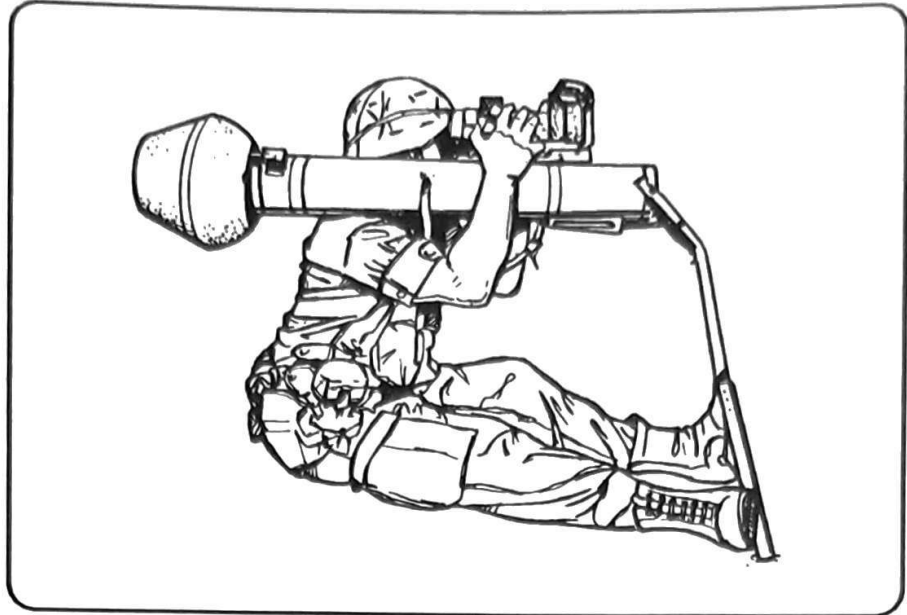
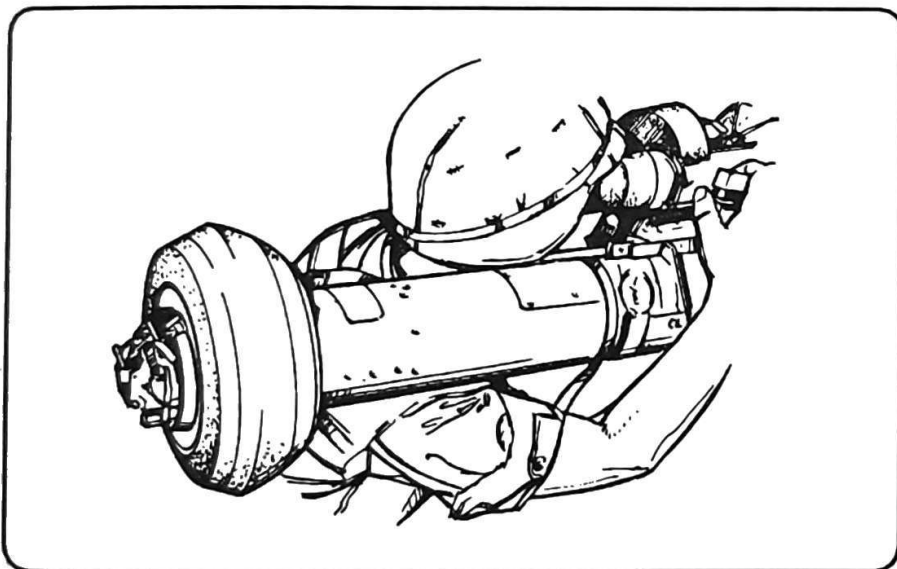

Figure 7-1. Sitting position.
Figure 7-2. Positioning of round on shoulder.
a. Sitting Position. Demonstrate the sitting position, then have the soldiers assume the position (Figure 7-1).
(1) The sitting position is the most stable. Sit with the legs extended as far as possible. Place the notch of the boot heels on the bipod and push outward.
(2) Lean forward at the waist as far as possible. Pick up the round and place it on the muscle portion of the shoulder, keeping it tight against the curve of the neck (Figure 7-2).
(3) Grasp the tracker barrel with the left hand, curling the thumb under